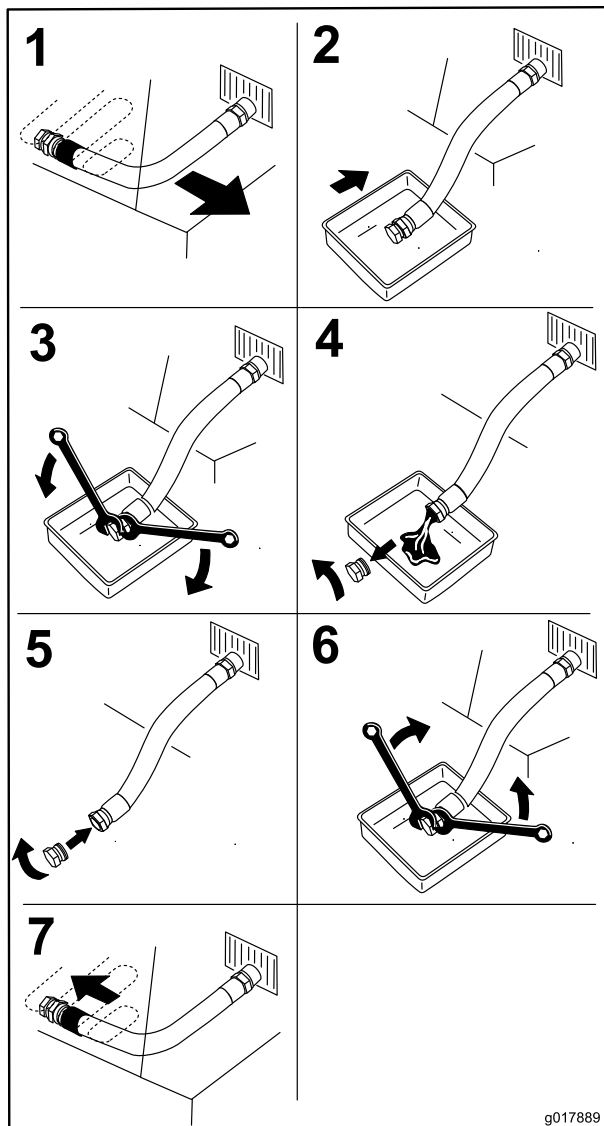

Figure 42
3. Stop the engine, remove the key, and wait for all moving parts to stop before leaving the operating position (Figure 42).